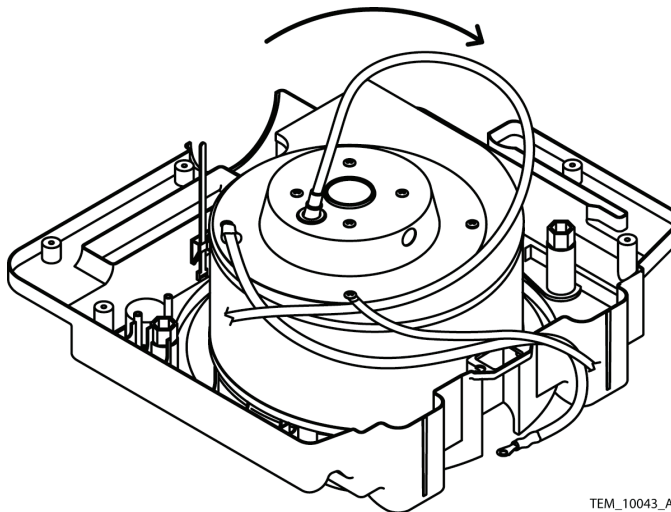
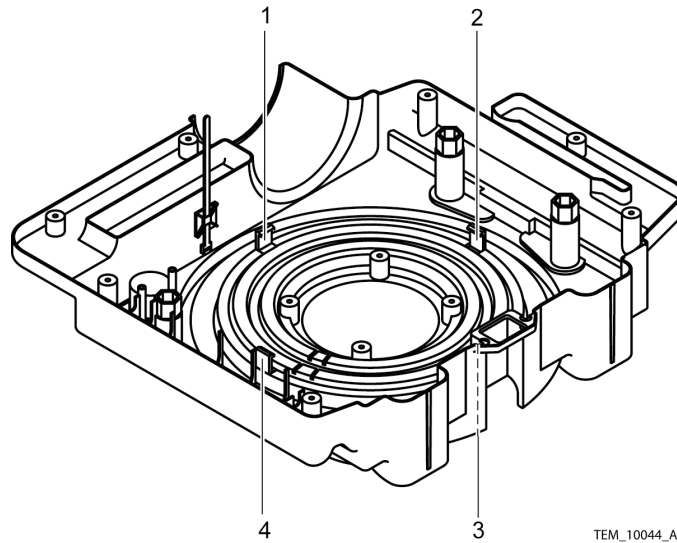

Figure 69. Blower Motor Removal
Figure 70. Blower Assembly Clips
25. Rotate the blower motor assembly clockwise to disengage two of the four clips. See Figure 69 and Figure 70.